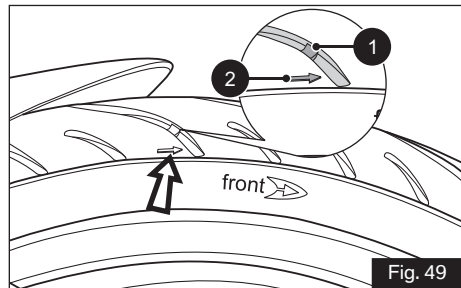

Fig. 49
- ♦ Replace the tyre when the tyre wears off to the tyre wear indicator level (1) which is indicated by the arrow mark (2) on the side surface of the tyre (ref. Fig. 49).
**Note** Tread wear marks are integrated into the main grooves on every tyre. If the tyre tread has worn down to the level of the marks, the tyre is completely worn. The location of the tread wear marks are indicated by an aero mark on the edge of the tyre (ref. Fig. 49). Replace the tyre when the minimum tread depth is reached.